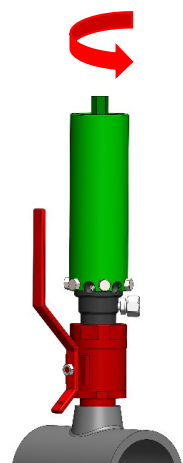

FIGURE 8
6. With the flat socket head capscrews removed, use a wrench to rotate the hex bar counter clockwise (CCW) to remove the Lower Housing Assembly from the line. This will raise the Lower Housing Assembly and Collar out from the NPT adapter. Continue turning until extraction cap reaches its top position. It will hit a shoulder at the top of the jack tube and stops rotating. See figures 8, 9 and 10.